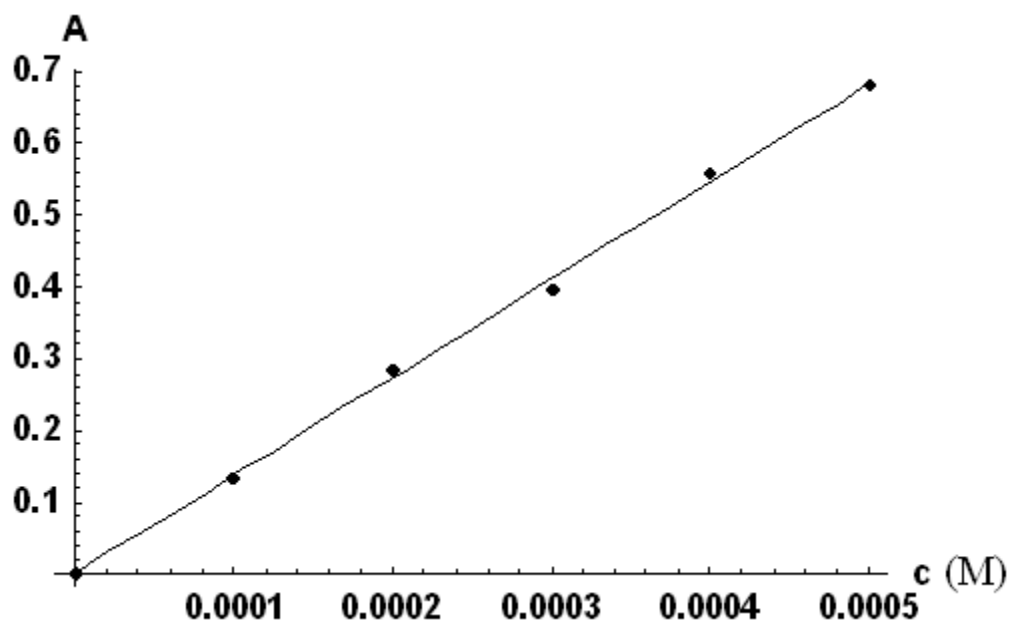

Figure 1. An example of a plot of absorbance versus concentration
When we determine the concentration of an unknown solution of a certain substance, we measure the absorbance in a spectrophotometer. If we know (ϵb), we can readily determine c , from the Beer-Lambert law. To determine ϵb , we normally perform more than one absorbance measurement on a set of solutions of accurately known concentrations (standards). A plot of absorbance (A) versus concentration (c), should yield a straight line of slope ϵb , called a **calibration line**. We thus take the best fit (see Fig. 1) and compute the slope. In Figure 1, the calculated slope is $1,364 \text{ M}^{-1}$, and can be used in the determination of any unknown concentration from the absorbance, measured in the same cuvettes (same path length).